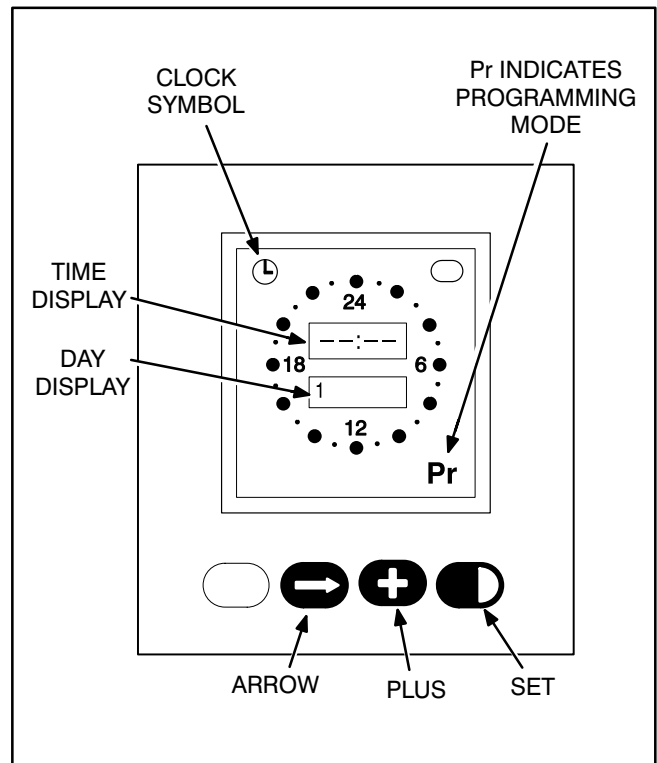

FIGURE 2-6. EXERCISER CLOCK
1. With the exerciser clock powered, press all three buttons simultaneously to reset the time. The time display area will show ( -- : -- ) and a small clock symbol will appear in the upper left corner of the display. Refer to Figure 2-6.